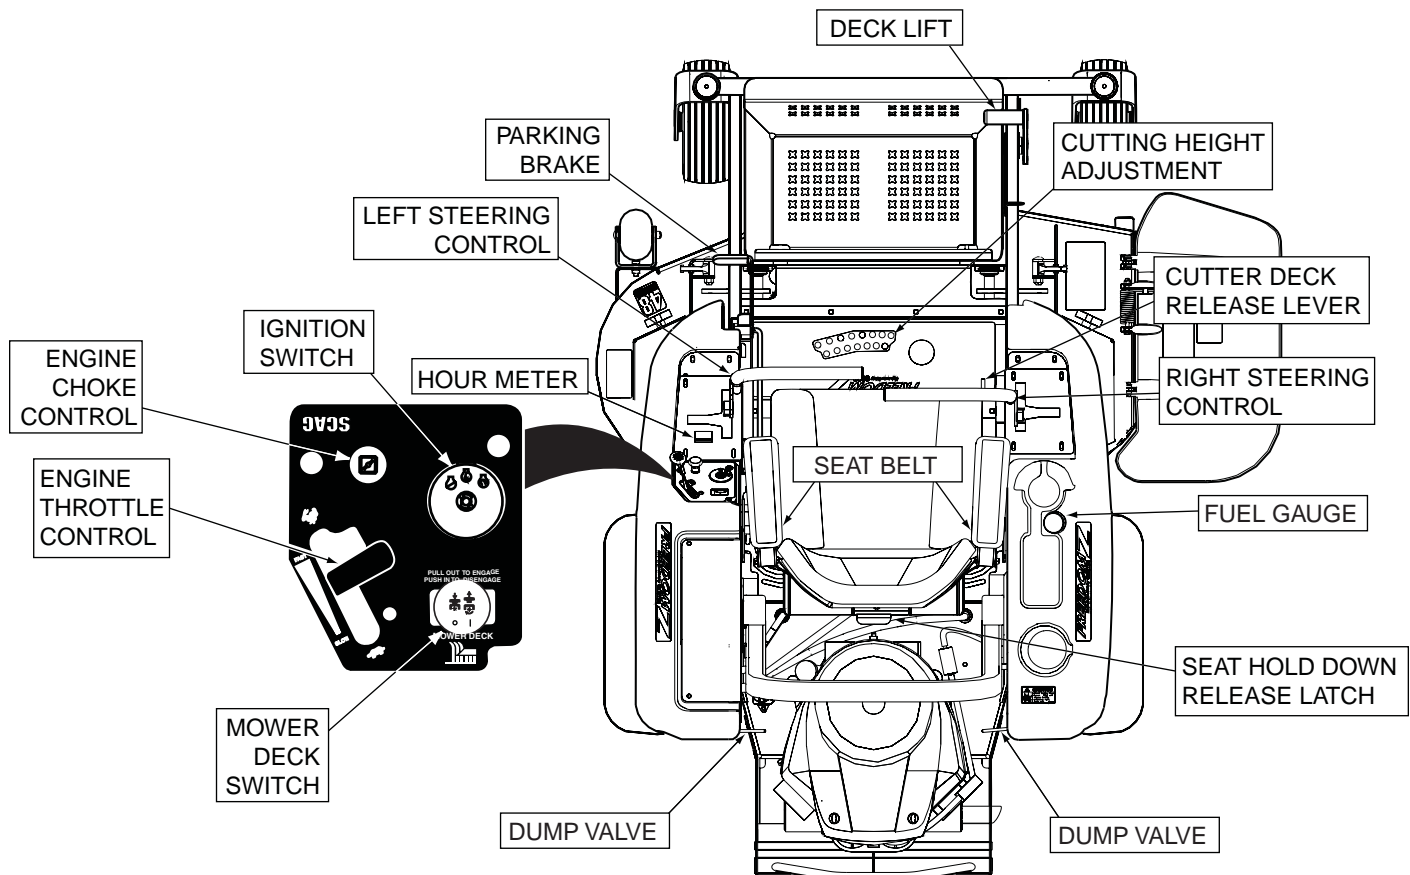

Figure 4-1 Controls and Instruments
**1. Ignition Switch (Figure 4-1).** Used to start the engine and has three positions; OFF, ON, and START.
- 2. Mower Deck Switch (Figure 4-1).** Used to engage and disengage the mower drive system. Pulling up on the switch will engage the deck drive. Pushing down on the switch will disengage the deck drive.
- 3. Engine Choke Control (Figure 4-1).** Used to start a cold engine.
- 4. Engine Throttle Control (Figure 4-1).** Used to control the engine speed. Pulling the lever back decreases engine speed. Pushing the lever forward increases engine speed. Full forward position is the cutting position. Full back is the IDLE position.
- 5. Fuel Gauge (Figure 4-1).** Indicates the amount of fuel in the fuel tank.
6. **Hourmeter (Figure 4-1).** Indicates the number of hours the engine has been operated. It operates whenever the ignition key switch is in the ON position. Has preset maintenance reminders for engine and hydraulic system oil changes. Will start flashing scheduled maintenance 2 hours before preset time and continue flashing until 2 hours after. Automatically resets.
7. **Fuse Holders (Figure 4-1).** Two 20-amp fuses protect the mower's electrical system. To replace fuses, pull fuse out of the socket and install a new fuse.
8. **Left Steering Control (Figure 4-1).** Used to control the mower's left wheel when traveling forward or reverse.
9. **Right Steering Control (Figure 4-1).** Used to control the mower's right wheel when traveling forward or reverse.
10. **Parking Brake Control (Figure 4-1).** Used to engage and disengage the parking brakes. Pull the lever back to engage the parking brakes. Push the lever forward to disengage the parking brakes.
12. **Deck Lift Foot Lever (Figure 4-1).** Used to raise and lower the cutter deck.
13. **Cutting Height Adjustment (Figure 4-1).** Used to set the cutter deck at the desired cutting height.
14. **Cutter Deck Release Lever (Figure 4-1).** Used to lock the cutter deck in the transport position. Push the foot pedal forward and pull back on the release lever to release the cutter deck for normal mowing.
15. **Seat Belt (Figure 4-1).** Used to secure the operator. Seat belt must be worn at all times during operation.
16. **Seat Hold Down Release Latch (Figure 4-1).** Located behind the seat. Used to secure the seat in the operators position. Release the latch to gain access under the seat.